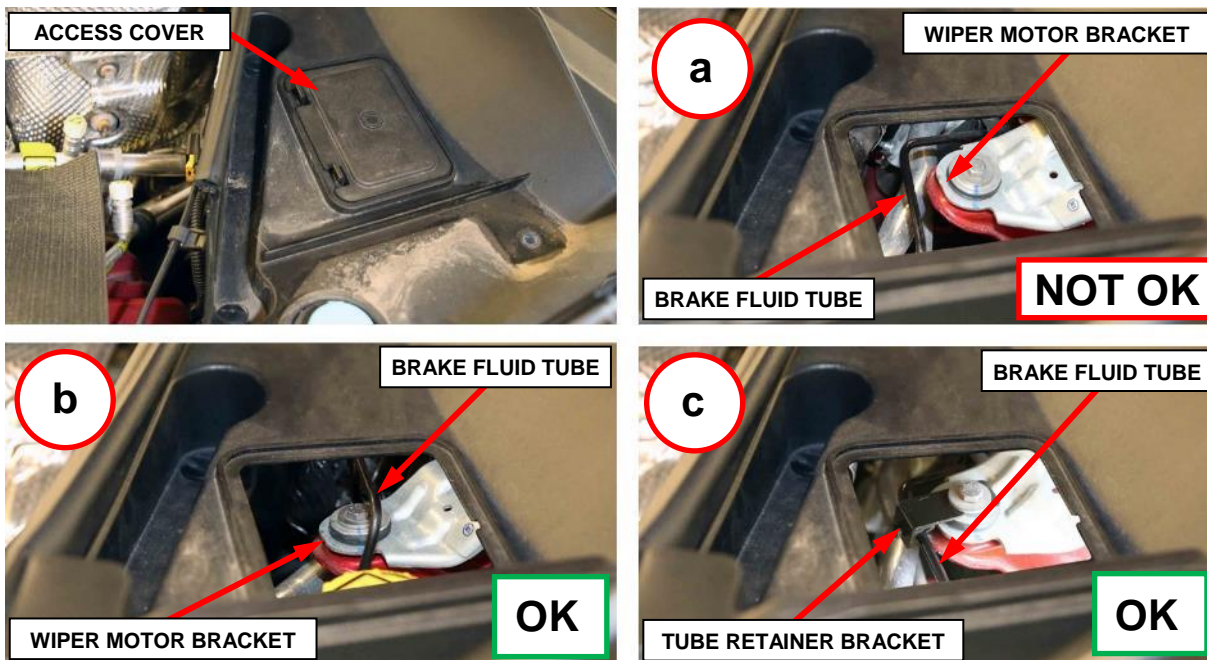

Figure 1 – Brake Fluid Tube Routing Inspection.
2. Remove the brake fluid reservoir access cover (Figure 1).
3. Inspect the brake fluid tube routing (Figure 1):